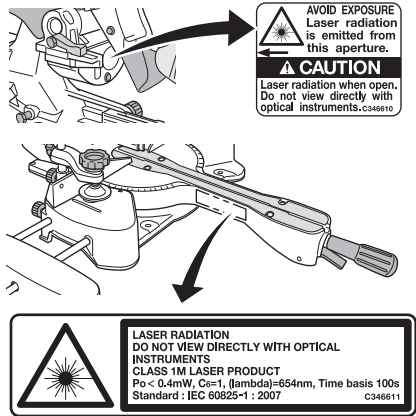

Fig. 20
- The following labels are affixed to the device in accordance with the laser standards. (Fig. 20)